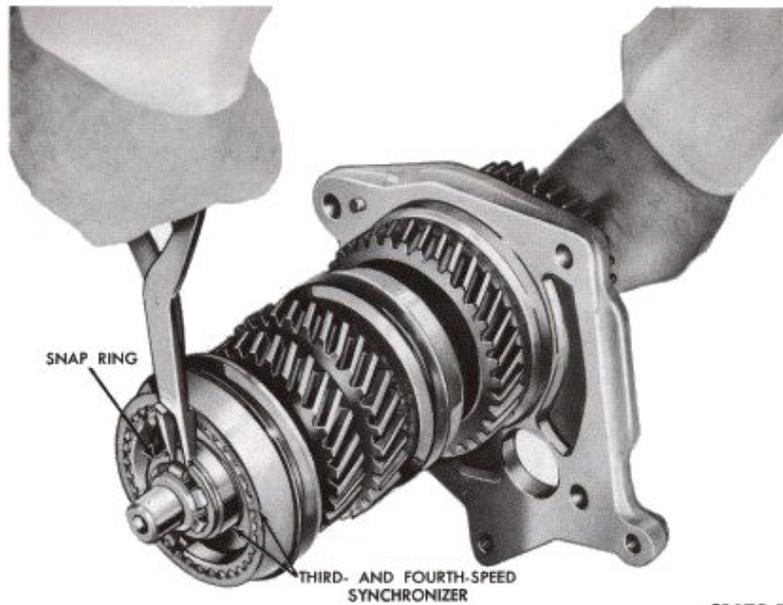
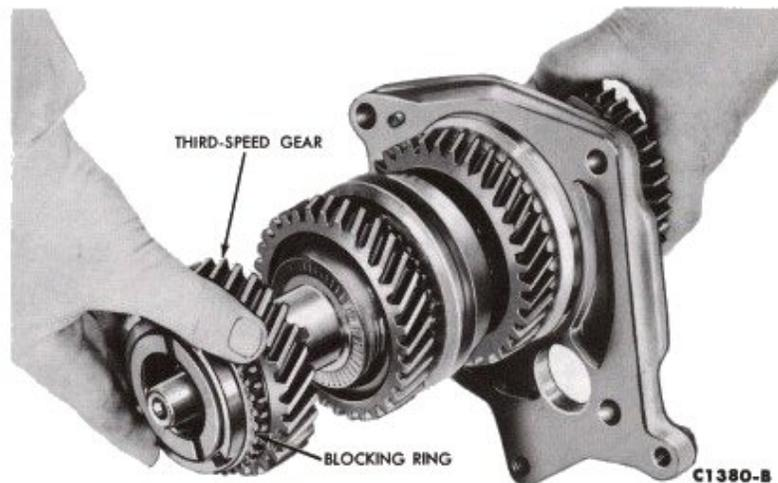
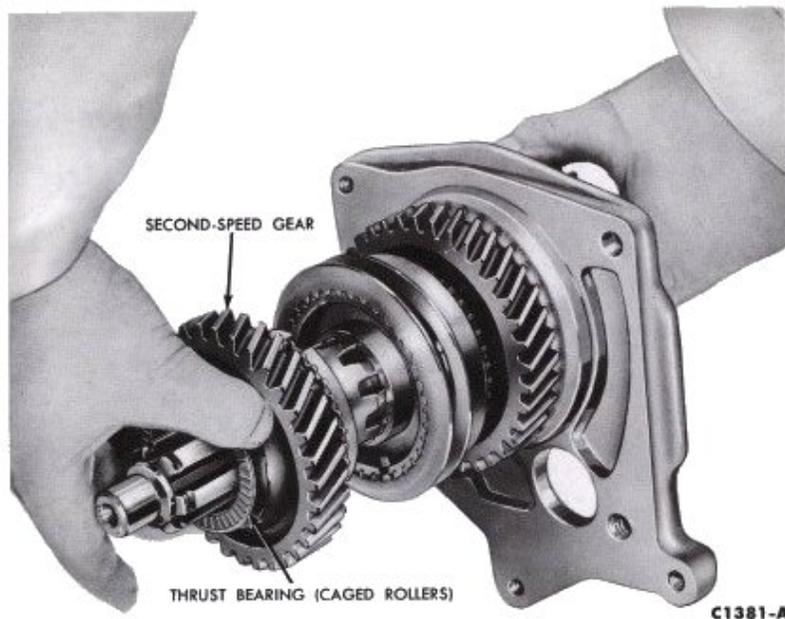

FIG. 15—Third and Fourth-Speed Synchronizer Removal
FIG. 16—Third-Speed Gear Removal
FIG. 17—Second-Speed Gear Removal
15. To disassemble the output shaft, remove the small snap ring at the front of the shaft and slide the third and fourth-speed gear synchronizer assembly (Fig. 15), third-speed gear synchronizer blocking ring, third-speed gear (Fig. 16), thrust washer, second-speed gear, and second-speed synchronizer blocking ring (Fig. 17) off the shaft.
10. Working from the front of the output shaft (Fig. 17), position the second-speed gear synchronizer blocking ring on the previously installed first and second-speed synchronizer. Line up the notches in the blocking ring with the inserts in the synchronizer.
ered hub facing toward the rear. Position the radial roller thrust bearing against the front hub face of the second-speed gear (Fig. 17).
12. Install the third-speed gear on the output shaft, with the tapered hub facing forward. Position the third-speed gear synchronizer blocking ring on the taper of the third-speed gear, with the notches in the blocking ring facing forward (Fig. 16).
13. Position the third and fourth-speed gear synchronizer assembly on the output shaft, lining up the synchronizer insert with the notches in the third-speed gear blocking ring. Install the output shaft front snap ring (Fig. 15).